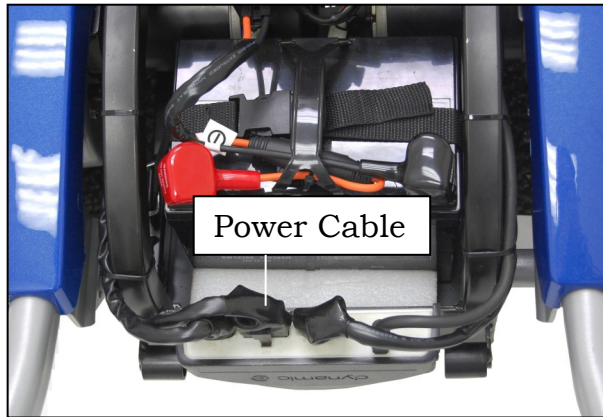

Figure 1
3. Make sure the power harness is plugged into the power module and locked. See figure 1 on page 14.